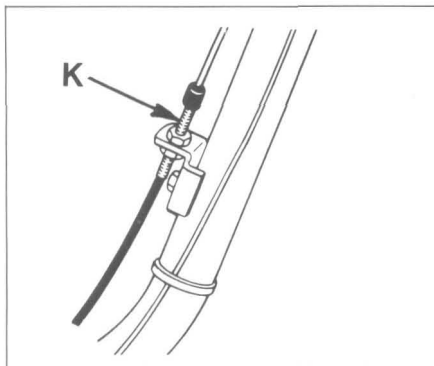

Figure 5-6
4. Check the tension on the wheel drive cable. It should just be taut when the Wheel Drive Lever is not engaged. If it is slack or too taut, adjust the cable tension at the adjustment section (Figure 5-6, Item K).
5. Check auger drive cable tension. It should be taut when the auger drive handle is not engaged (when it is not squeezed down). Adjust tension at the auger drive cable's adjustment section (at the lower end of the handlebar) (Figure 5-6).